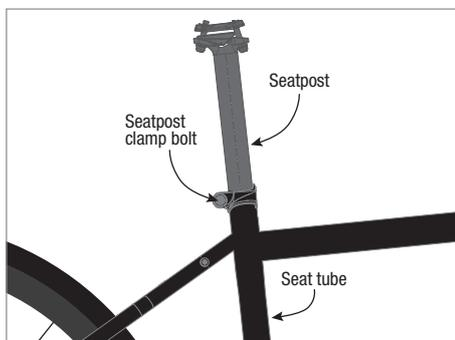

Figure 1
1. Clean the inside of the seat tube and remove any burrs with file or fine grit sandpaper. Lightly grease the inside of seat tube (Fig. 1).
- Adjust the saddle height to your preference making sure the seatpost MINIMUM depth marking remains below the top of the seat tube. Then tighten the seatpost clamp bolt to the frame or seatpost clamp's torque specification, whichever is less (Fig 1).